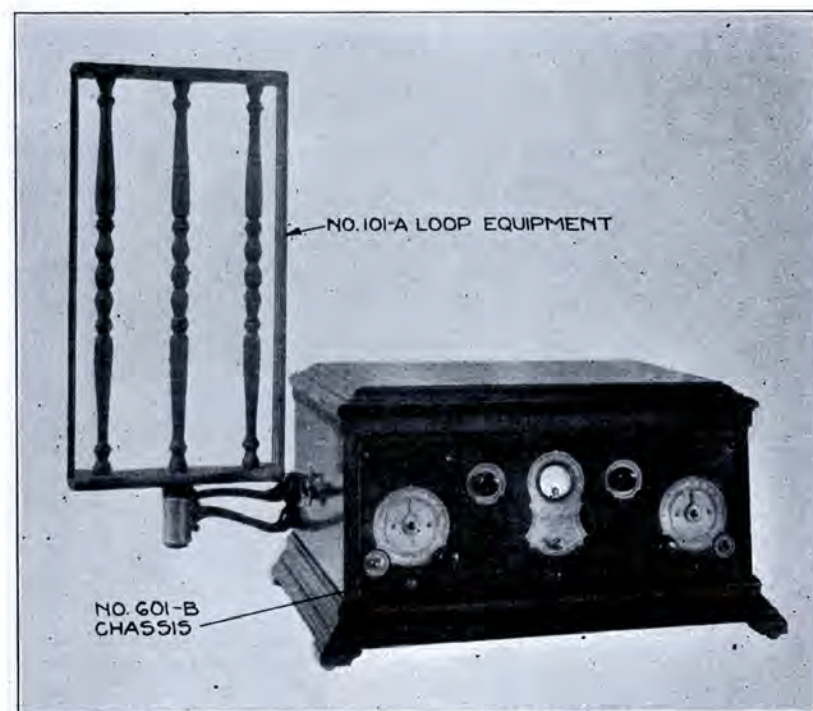
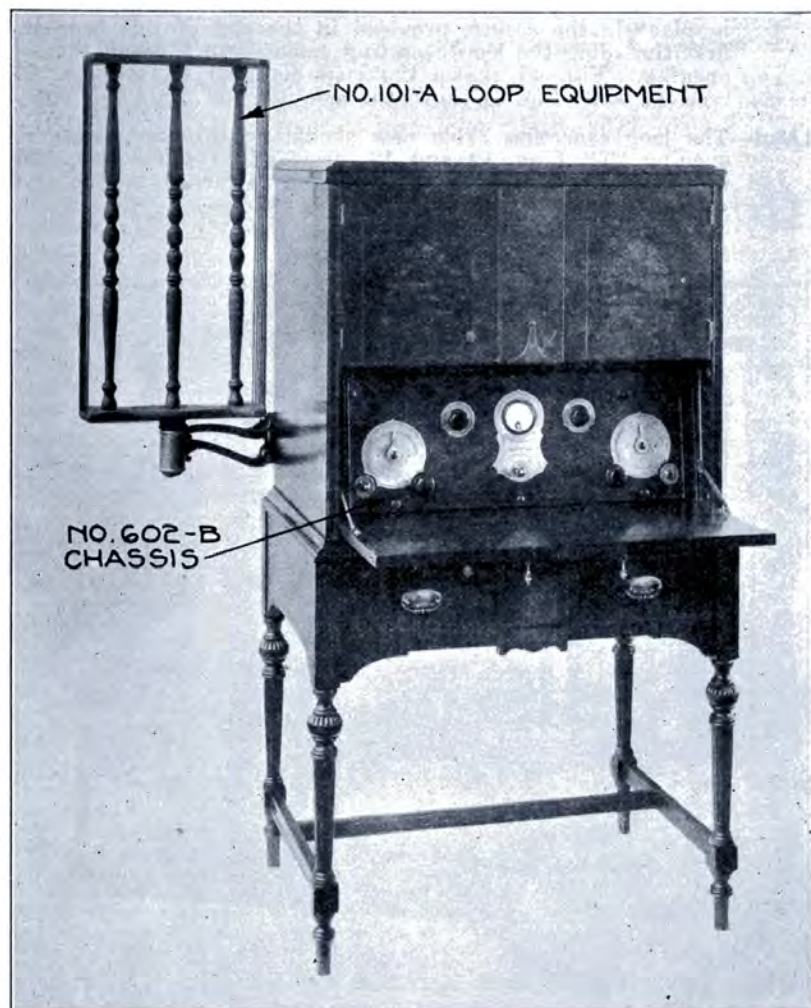

Fig. 46—Loop Type of Signal Collector applied to No. 601-B Receiver
Fig. 47—Loop Type of Signal Collector applied to No. 602-B Receiver
Second—After mounting the loop supporting bracket, the loop can be set in place in the socket, provided in the end of this bracket, by first threading the loop connecting cable down through the socket opening. Fig. 46 shows the loop mounted on the No. 601-B receiver while Fig. 47 shows the mounting on No. 602-B receiver.
- (b) By rotating the loop Figs. 46 or 47 to the best position for the desired volume of signal.